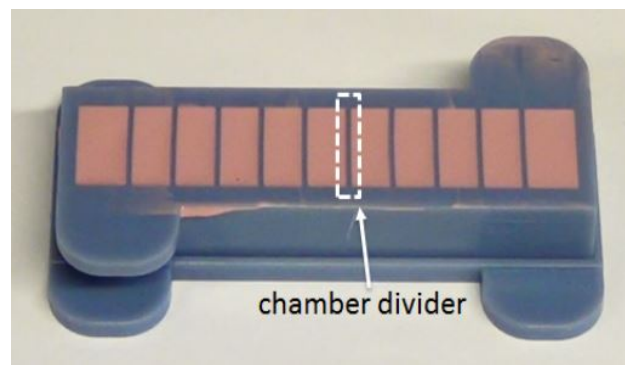

Figure 2: Make sure that the tops of chamber dividers are visible. **This ensures that the chambers remain separate in the final cured piece!**
6. Make sure that the tops of the chamber divider are still visible (see Fig. 2) - **double-check that**.